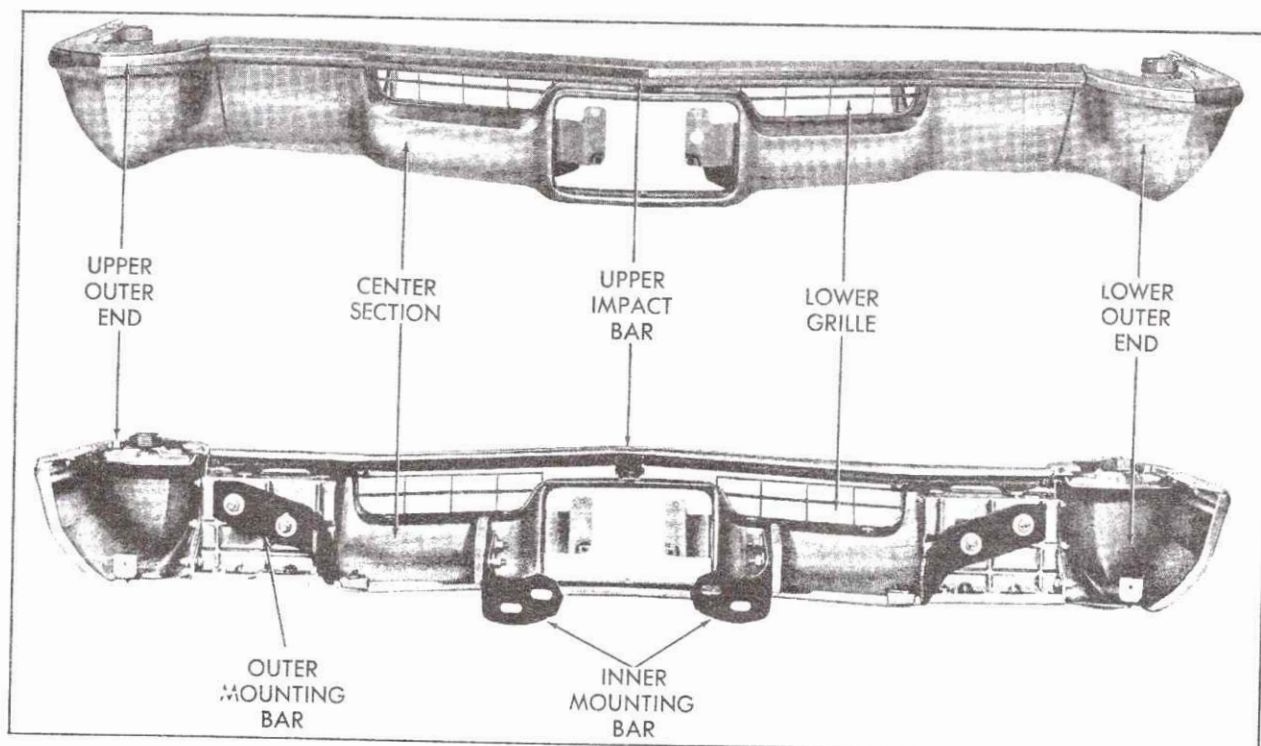

Fig. 14-1 Front Bumper - Front and Rear View
The front bumper assembly is of a six-piece design that includes a bold center face section with attached right and left upper and lower ends and integral lower grille, Fig. 14-1.
## a. Removal (Fig. 14-1)
**b. Installation (Fig. 14-1)**